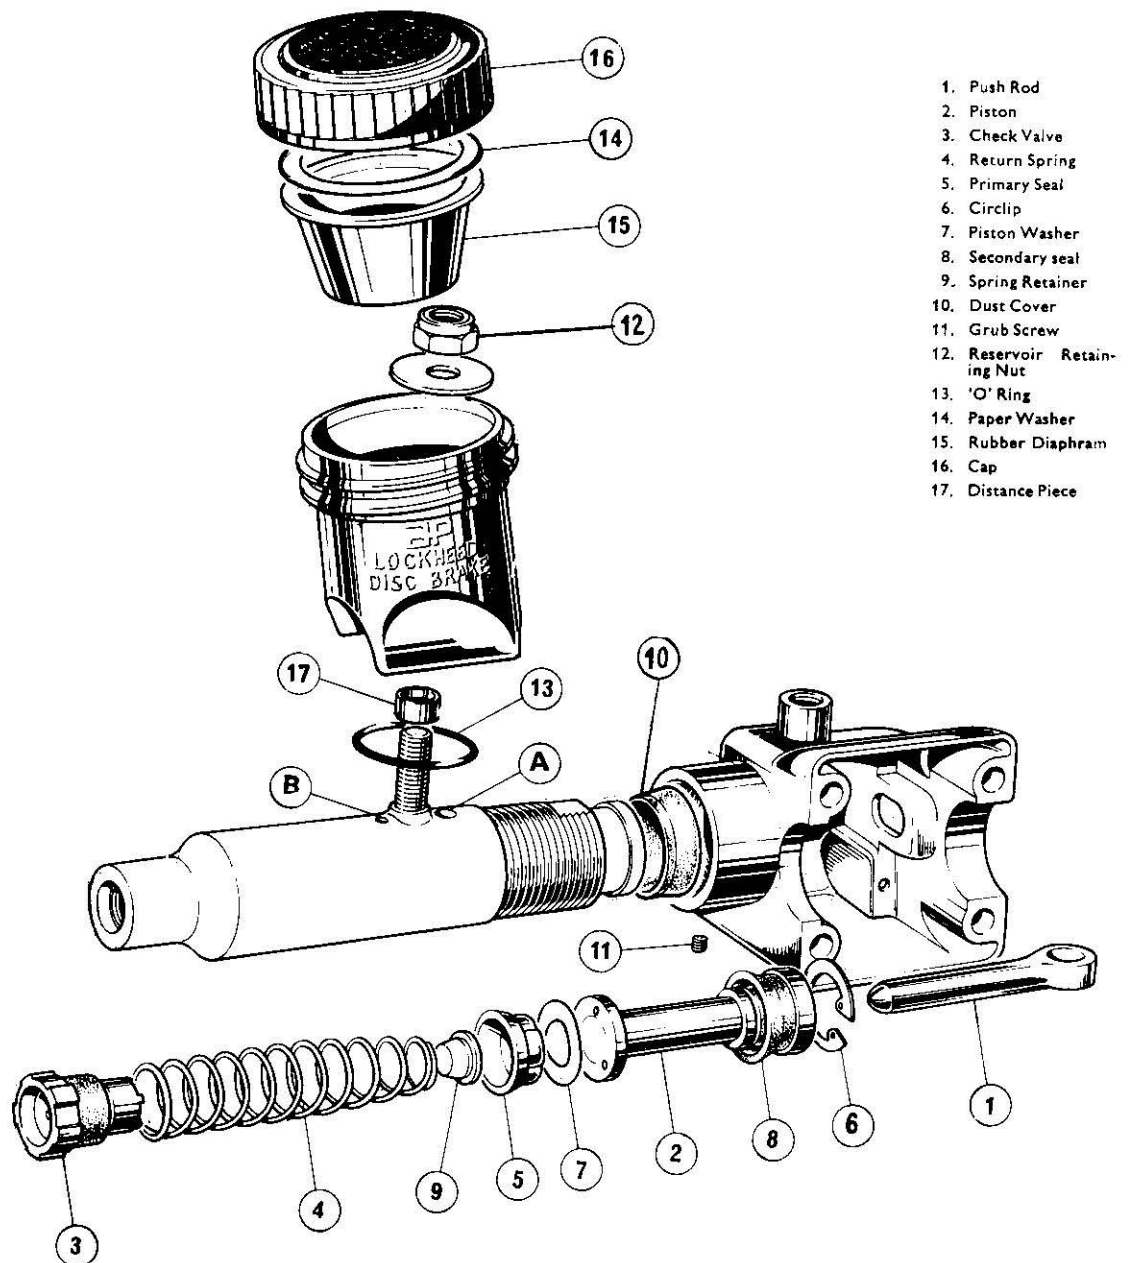
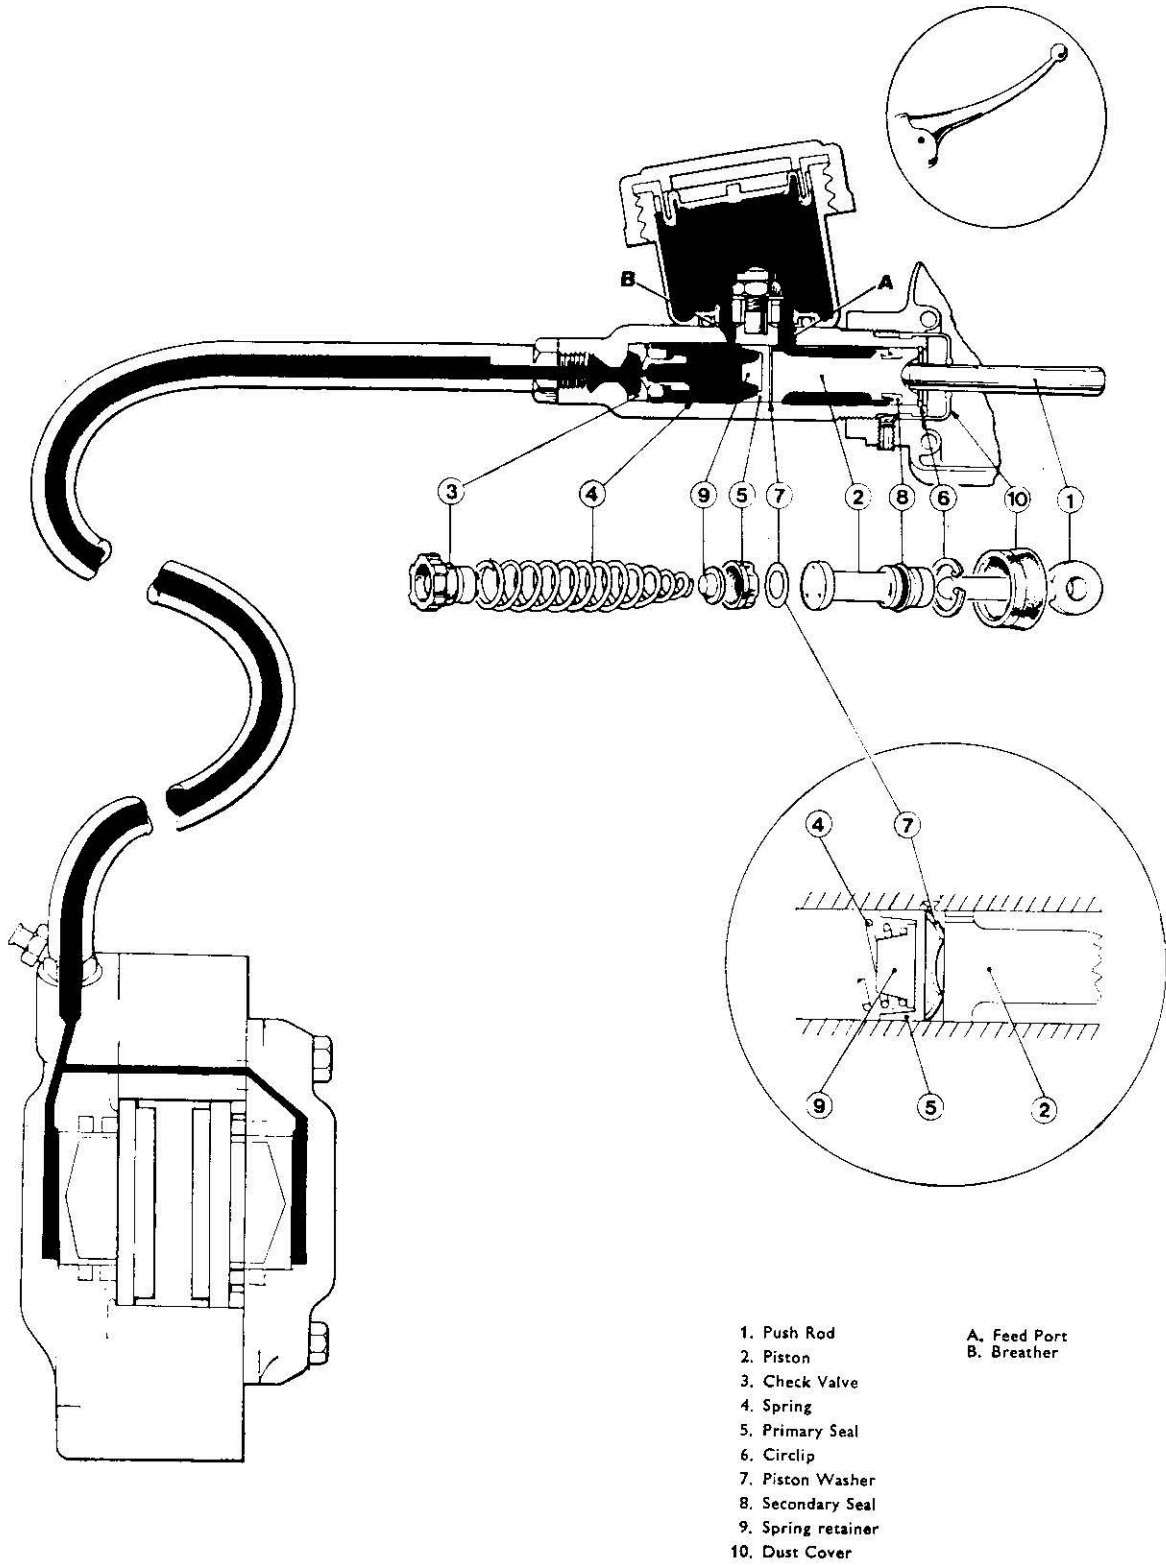

Fig. F29. Exploded view of master cylinder
Fig. F30. Hydraulic flow diagram
The master cylinder is mounted in the right hand handlebar electrical switch. It consists of a fluid reservoir bolted to a cylinder body containing a piston, seals and other parts as shown in Fig. F29. With reference to the hydraulic flow diagram (Fig. F30) and the exploded view (Fig. F29) the operation of the cylinder is as follows:— When the front brake lever is pulled on the push rod (1) moves the piston (2) down the bore. The displaced fluid in front of the piston is forced through holes in the check
Removal and dismantling procedure of the cylinder is as follows:— Firstly drain the system of fluid. See Section F22. Remove the rubber hose from the wheel cylinder. Remove the brake lever and push rod by unscrewing the pivot bolt. Unscrew the four retaining screws that retain the right switch console and remove the master cylinder from the handlebar. Detach the reservoir bowl from the cylinder by removing the attachment nut from the inside (See Fig. F29). Note assembly of washer, spacer and 'O' ring. Remove the grub screw that locks the cylinder in position in the switch housing (See Fig. F29) and then unscrew the cylinder. Detach the rubber boot from the end of the cylinder. Using the push rod (1) depress the piston in the cylinder to relieve the load on the spring and remove the circlip (6). Remove the piston (2) piston washer (7), primary seal (5), return spring (4) and check valve (3). The removal of the primary seal (5) may be simplified by applying gentle air pressure to the pipe connection at the end of the cylinder.
Fit the secondary seal (8) onto the piston (2) so that the lip of the seal faces towards the head (drilled end) of the piston. See Fig. F29. Gently work the seal around the groove with the fingers to ensure that it is properly seated. Fit the spring retainer (9) onto the small end of the spring (4) and the check valve (3) onto the large end. Insert the spring assembly onto the cylinder bore, large end first. Insert the primary seal (5) into the cylinder bore, lip foremost (See Fig. F29), taking care not to damage or turn back the lip. Insert the piston washer (7) into the barrel with the dished side towards the primary seal (5) (See Fig. F30) followed by the piston, head (drilled end) innermost, see Fig. F29. Push the piston inwards with the end of the push rod and refit the circlip (6). Make sure that the circlip beds evenly in its groove. Refit the boot (10) by stretching it over the barrel. Refit the reservoir bowl, not forgetting the 'O' ring and test the cylinder by filling the reservoir and pushing the push rod and piston inwards and allowing it to return unassisted. After a few applications fluid should flow from the outlet connection at the cylinder head.
If necessary refit the return spring. Empty the cylinder of fluid and proceed to re-assemble the cylinder barrel into the switch housing. At this stage the final position of the cylinder barrel in the housing must be determined. Here reference must be made to Fig. F30 (i). It will be observed from Fig. F30(i) that the lip of the primary seal (5) must be $1/16$ of an inch behind the breather port and the reservoir set at an angle of 10° to the vertical. The milled flats on the threaded end of the cylinder are machined relative to the 10° position and the appropriate one must be used when assembly takes place.
- (4) Place one finger over the main feed port (A) Fig. F29 and by blowing through the outlet end of the cylinder it will be observed that no air will escape from the breather port (B) Fig. F29.
- (5) Now unscrew the cylinder barrel until air is heard to escape from the breather port (B). At this point the port will have just become uncovered.
- (6) Unscrew the barrel one complete turn and set the angle to 10° as shown in Fig. 31. The milled flat on the threaded end of the barrel must be located when the grub screw (Fig. F29) is being re-tightened and will set the angle automatically.